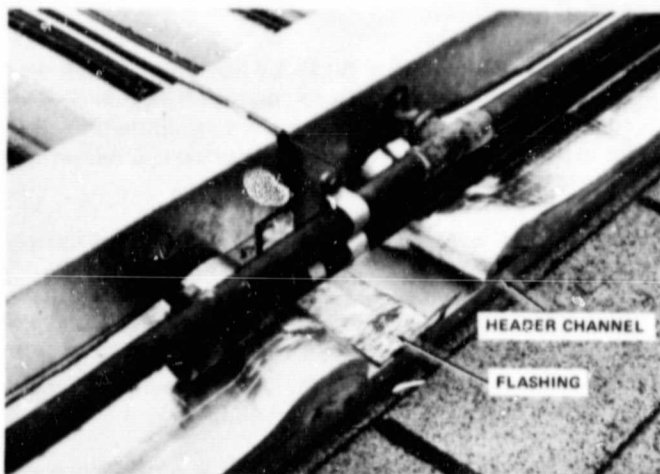

Figure 5-6. Apply Flashing
2. Slide insulation away from joints to be sealed. Apply flashing (aluminized, water-proof tape) as needed inside the header channel over the gaps between collectors as a moisture barrier, (Figure 5-6). Re-position the insulation.